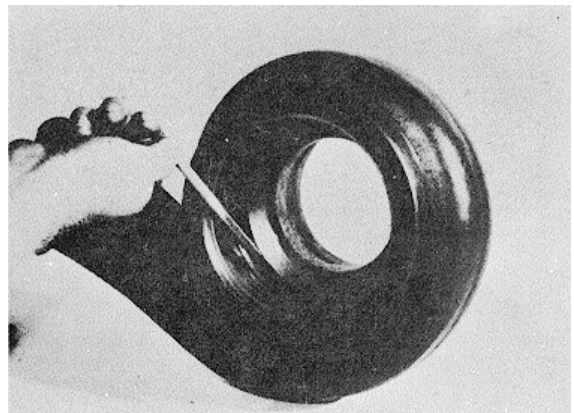

Fig. 10-15, T-31 1. Inspecting turbine casing
2. Inspect for external cracks. Fig. 10-15.